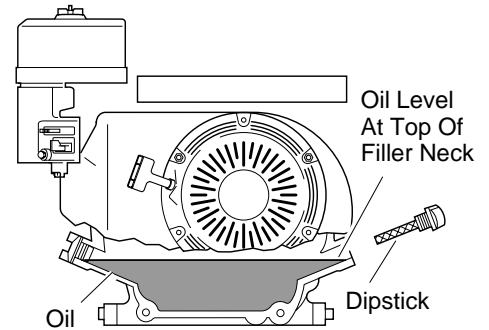

Figure 7 - Checking Oil Level (Model RGH5500A Shown)
- Remove dipstick (see Figure 7). Wipe dipstick clean.
- If level is low, fill to top of oil filler neck (see Figure 7). For Model RGH11000AIE only, fill to top dot on dipstick. Only use oil recommended in engine owner's manual.